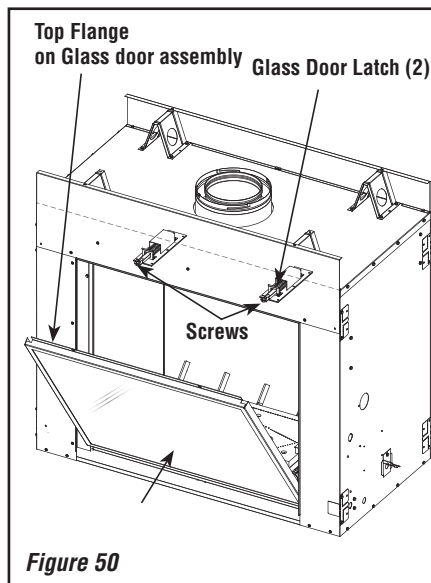

Figure 50
Installing Glass Doors, and Modesty Panel (see Figure 50)
- b) Position the door in front of the firebox opening, with the top of the door held away from the fireplace (see Figure 50).
- d) Using a #3 Phillips screwdriver, fasten the door frame to the door latches with the two (2) latch screws. The latches should pull forward to engage the door frame.
Removing Glass Doors, Barrier, and Modesty Panel (see Figure 50)
- a) See Figure 50. While holding the top of the glass door frame in place, use a #3 Phillips screwdriver to remove the two (2) screws securing the door frame to the two (2) door latches.
- b) Carefully tilt the top of the glass door frame away from the unit (as shown in Figure 50), and then lift the door assembly up and out of the lower track.